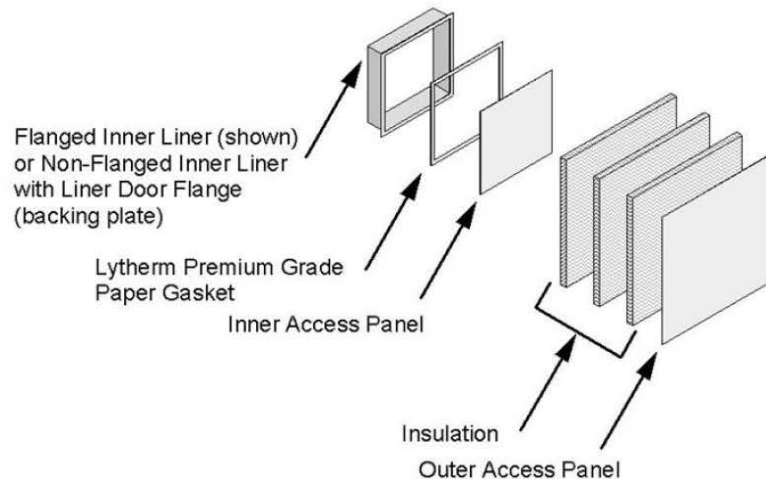

Figure 2. Access Door
- D. ACCESS DOOR – Reference Figure 2. When required, use a Pre-Fabricated Grease Duct section pre-equipped by manufacturer with an access door assembly having a max. 20 in. x 20 in. opening at the inner access panel and three layers of nominal 1 in. thick insulation, or two layers of nominal 1-1/2 in. thick insulation of the same